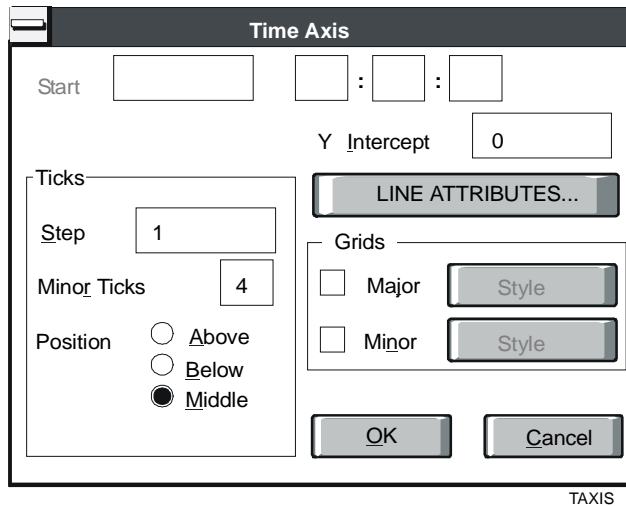

Figure 14-4: Time Axis Dialog Box
1. Double-click on the axis line (not the numeric labels). This displays the Time Axis dialog box (Figure 14-4). The range of the X-axis is fixed at 15 minutes (900 seconds).